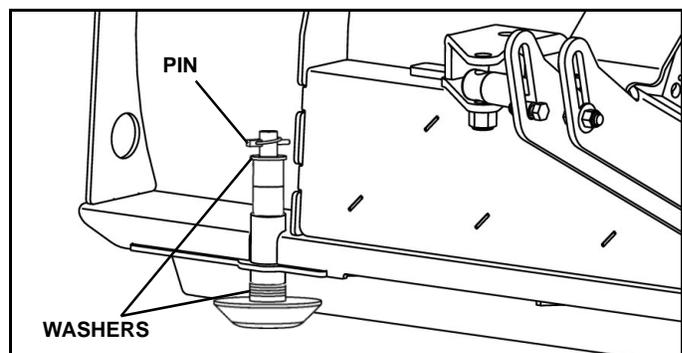

Figure 1-15
- e. Adjust shoe assemblies by removing shoe mounting lynch pin and adding or subtracting washers on the top or bottom of the shoe mounting location. (See Figure 1-15).